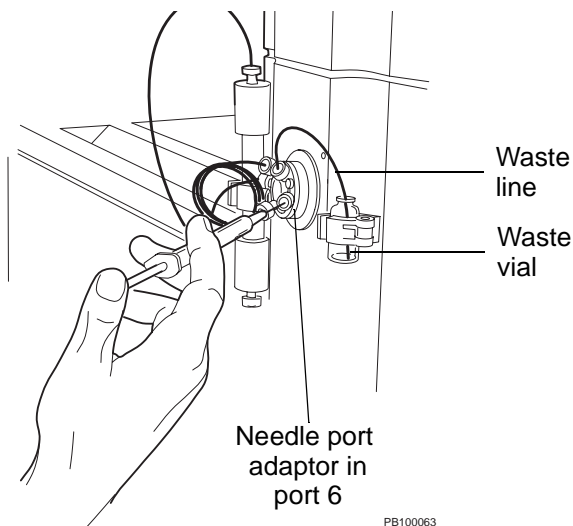

Figure 5-22 Making a Manual Injection
5. Insert the syringe in the needle port adaptor and inject the sample (Figure 5-22).